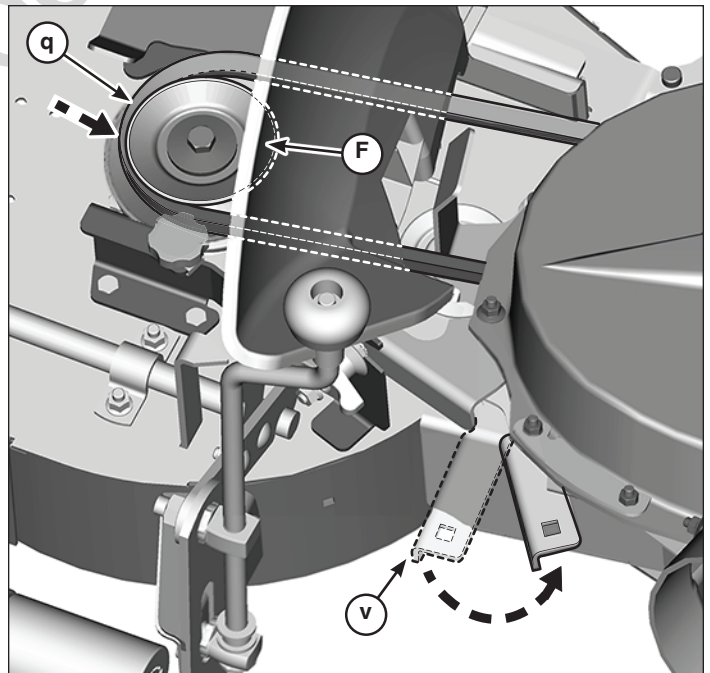

Figure 15
5. Pull idler arm (v, Figure 15) to loosen tension, then install turbo belt (q) onto top pulley (F).